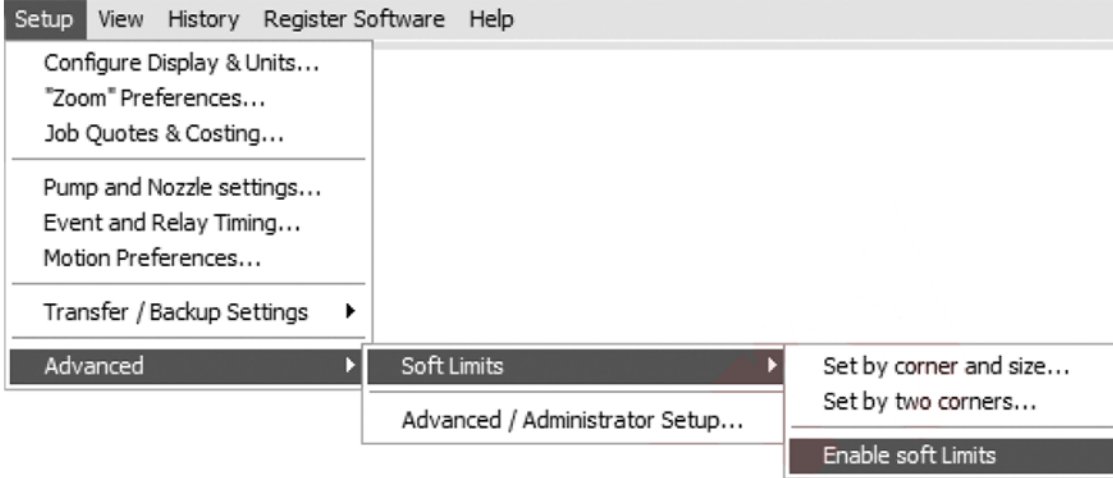

Figure 19
**NOTE:** Do Not press Stop [2] (Figure 19). MAKE automatically switches to finding the Y hard stop.